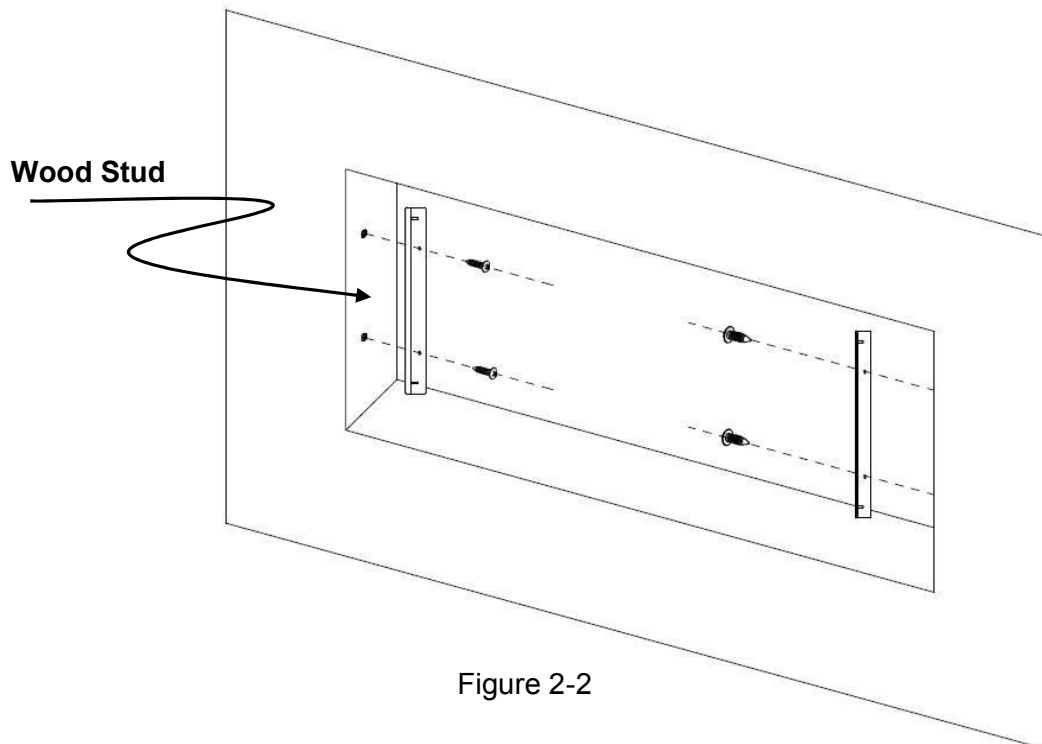

Figure 2-2
- C. Fix the two metal brackets (**N**) (1per side), with 4 screws (**B**) (supplied) through wood stud. (**Figure 2-2**)